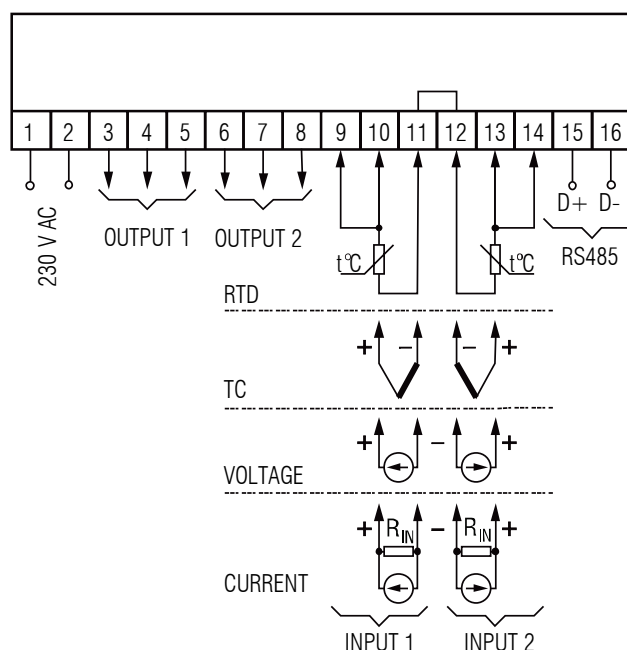

Fig. 5.1 Terminal block layout
- The layout of terminal blocks is shown in Fig. 5.1 and the terminal assignments in Table 5.1